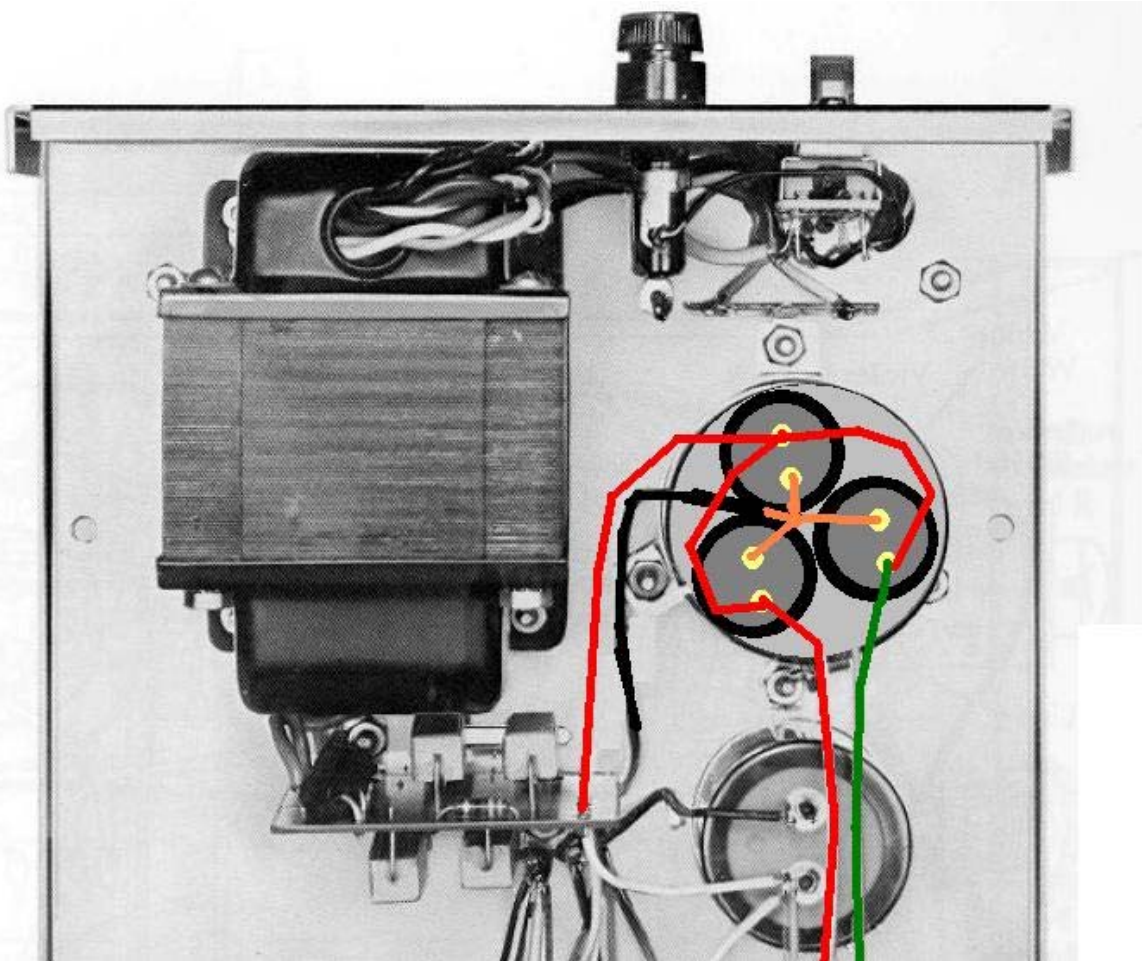

Figure 5-Note the orientation of the capacitor assembly when installed into the amplifier
2. Orient and wire the new assembly as shown in Figure 5.